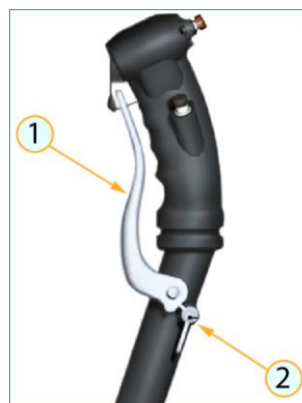

Fig. 7.24. Wheel Break Lever on Left Cyclic Pitch Control Stick
(6) *REDUCING VALVE УП25/2* (UP25/2) controls breaks of main landing gears' wheels pneumatically. Control is effected by lever on cyclic pitch control stick, Fig. 7.24.